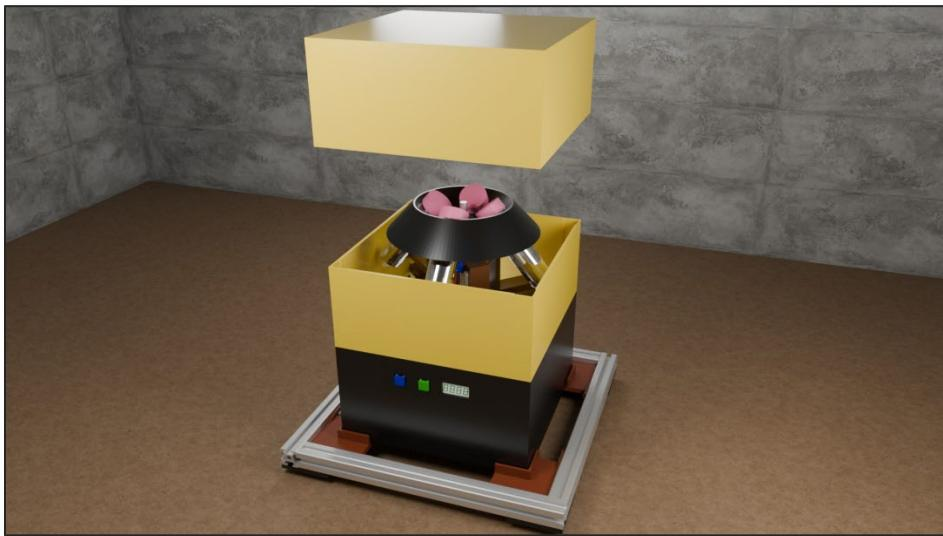

Figure S41: The assembling of the 'gripper'-claw with both its jaws and movable joints. (Top High)
STEP 8: [Fully Assembled Centrifuge with Base Frame, Centrifuge Lid] The last and final step is of course to place the lid on top of it all as seen in Figure S41. We also added some completely optional black tape to the corners of the CENTRIFUGE as seen in Figure S42 for mainly visual reasons but also initially to hold things better in place, which was not actually needed (unless the print was done in a way that the parts are too loose).